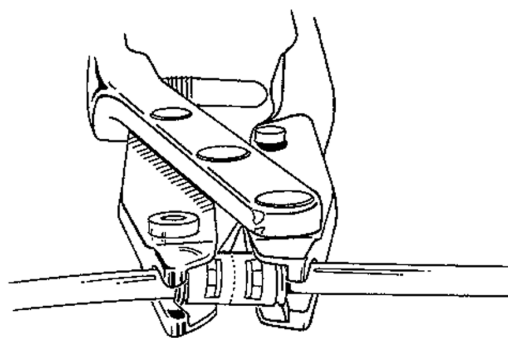

Figure 4-20. Place Connector Into Assembly Tool
10. Place connector ends in tool jaw (**Figure 4-20**).
CAUTION: Check tubing before you close assembly tool. The tubing must not be trapped between assembly tool jaw and connector. The tubing must exit straight from ends of the connector, through the slots in assembly tool. After using AMS Quick Connect Assembly Tool, tubing should bulge through connector window. This indicates that tubing is still firmly against the middle wall of the connector. The end of the collet outside of the connector should be parallel to and almost flush with the end of the connector. (**Figure 4-20**) This indicates collet has been inserted completely into and attached to connector. Give a firm pull on tubing on both ends of connector to confirm a good connection has been made.